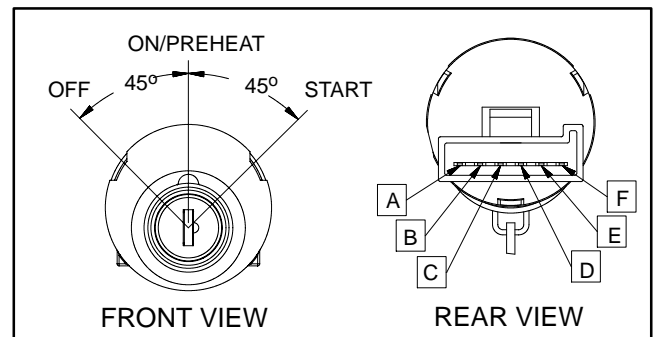

Figure 16
5. The ignition switch terminals are identified as shown in Figure 16. The circuit logic of the ignition switch is shown in the chart below. With the use of a multimeter (ohms setting), the switch functions can be tested to determine whether continuity exists between the various terminals for each switch position. Verify continuity between switch terminals. Replace switch if testing identifies that switch is faulty.